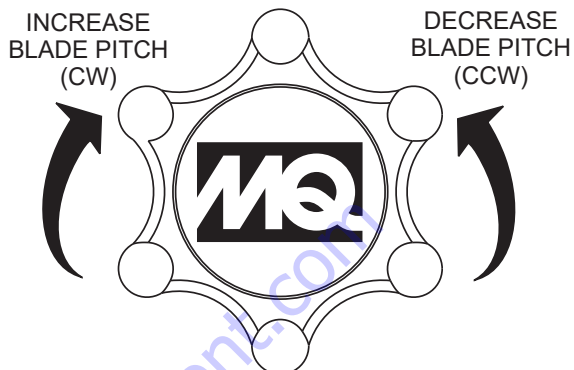

Figure 12. Blade Pitch Cable Adjustment (Standard Handle)
1. For trowels equipped with a **standard** handle, turn the star wheel **counterclockwise** to release tension on the blade pitch cable. See Figure 12.